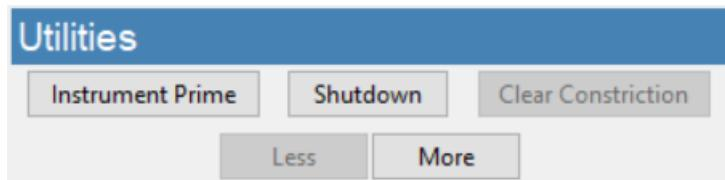

Figure 2. Utilities frame
- In the nCS1 control software, click on the "Instrument Prime" button (Utilities, Figure 2) and follow the prompts from the software.
- Determine your hardware version, click on the “More” button in the nCS1 control software (Utilities frame, Figure 2).
- Press the "Instrument Shutdown" button (Utilities frame, Figure 2) and follow the instructions.